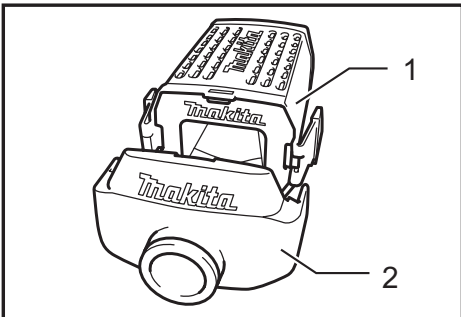

Fig.12
► Fig.12: 1. Dust box 2. Dust nozzle